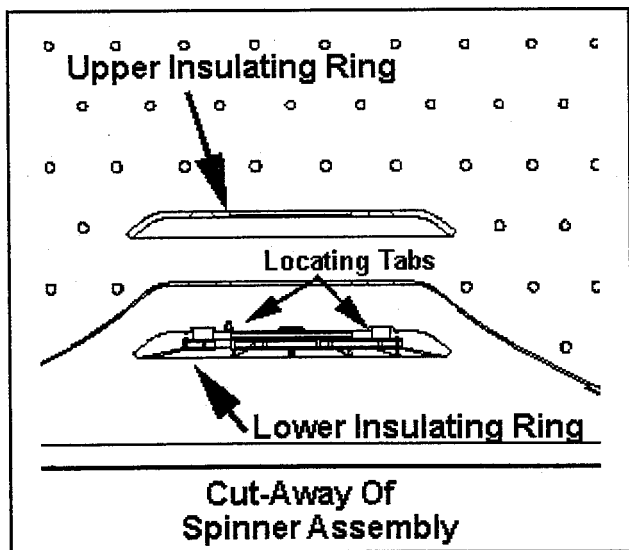

Figure 5-13
9. Depress the four (4) tabs that hold the lower insulating ring to the bottom of the spinner and remove. *(Figure 5-12)* These four (4) tabs are not necessary for correct machine operation. These tabs are used to assist in the manufacturing process. If one or more break during removal, the part is still functional. *(See Figures 5-13 thru 5-14)*